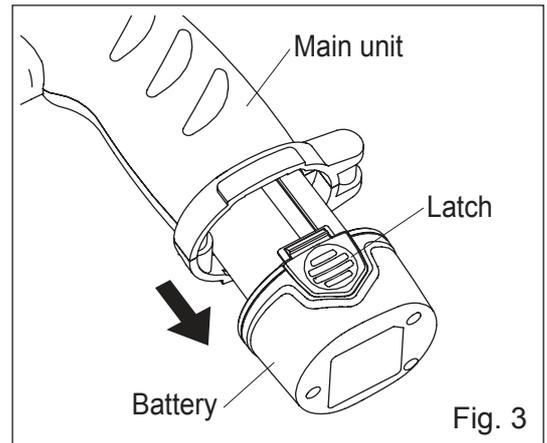

Fig. 3
1. Remove the battery from the main unit by pressing the latch on the battery. (Fig. 3)